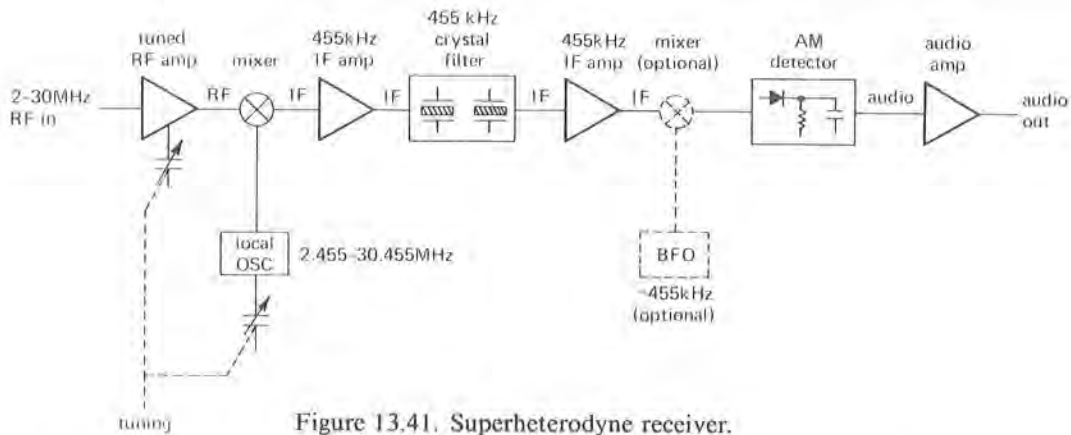

Figure 13.41. Superhetrodyne receiver.
A nice solution to these problems is the superheterodyne ("superhet") receiver shown in Figure 13.41. The incoming signal is amplified with a single stage of tuned RF amplification, then mixed with an adjustable local oscillator (LO) to produce a signal at a fixed intermediate frequency (IF), in this case 455kHz. From then on the receiver consists of a set of fixed-tuned IF amplifiers, including selective elements such as crystal or mechanical filters, finally terminating in a detector and audio amplifier. Changing the LO frequency tunes the receiver, since a different input frequency then gets mixed to the IF passband frequency. The input RF amplifier must be gang-tuned with the LO, but the alignment is not critical. Its purposes are (a) to